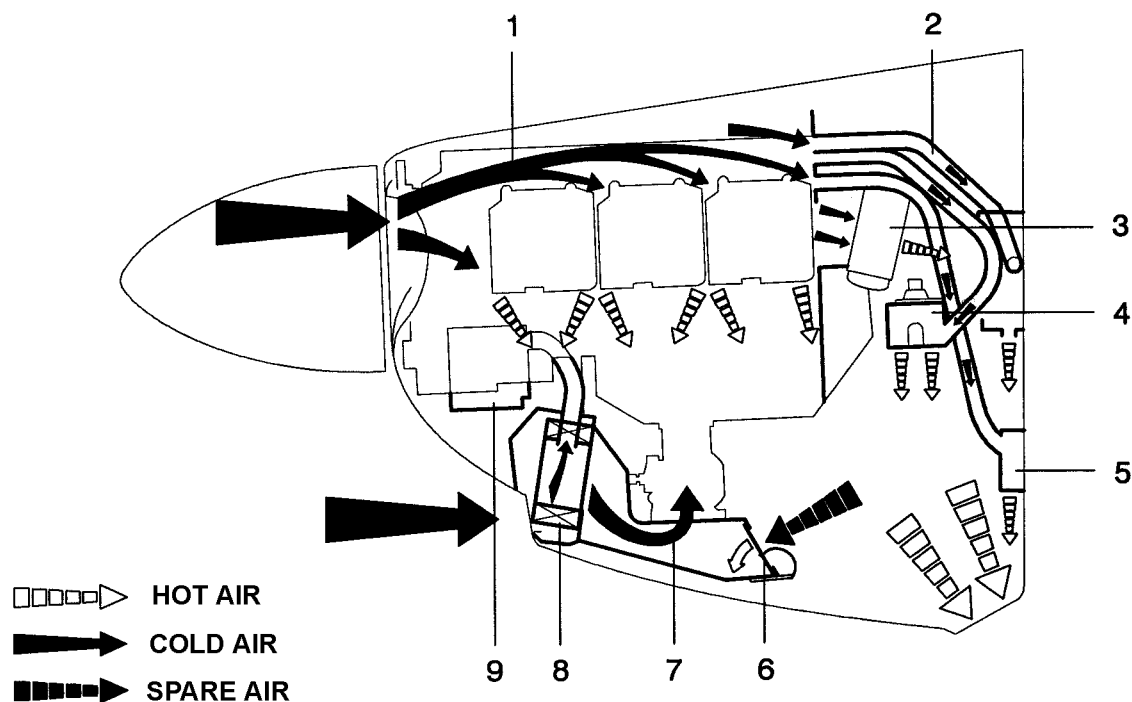

Fig. 7-14 Engine Cooling and Intake System
Engine cooling air (1) enters on either side of the propeller through openings in the front cowling and is carried through engine cowling around the cylinders and through the oil cooler (3), located on the left rear part of the engine baffling. The cooling-air for the engine fuel pump (4), voltage regulator (5) and the battery box (2) is supplied from the rear cowling. Fig. 7-14 shows the engine intake system.